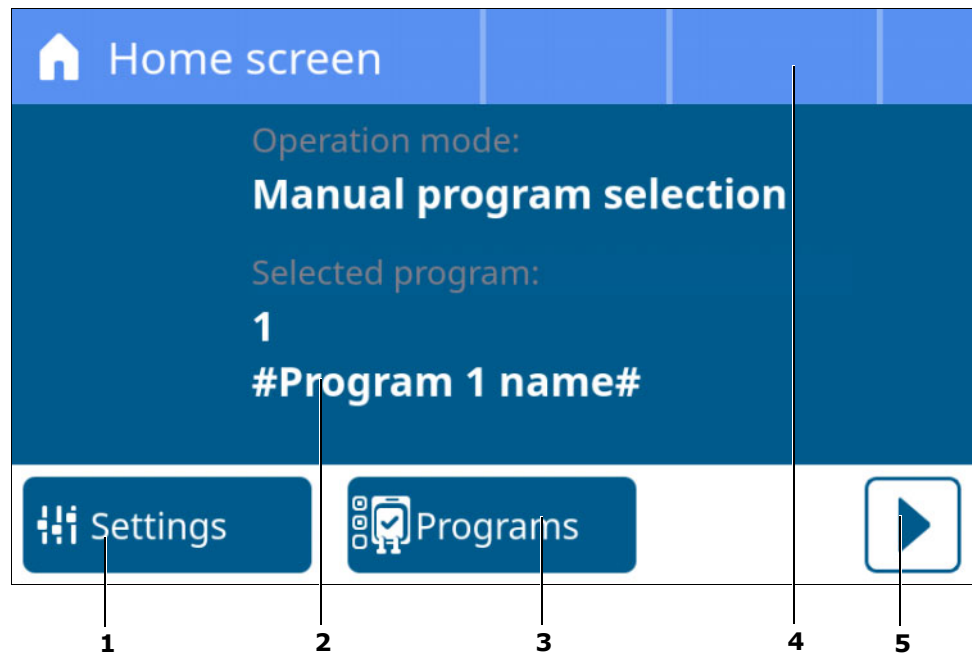

Fig. 11 Simplified main menu
- In the main menu, press the **Settings** button (Fig. 11, Item 1).